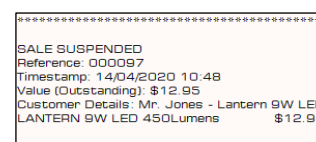

Figure 100: Suspended Sale Receipt
4. At this point, the transaction is removed from the Sales Ledger and "parked" while a printed Suspended Sale receipt is also generated (Figure 100), acting as proof of the unfinalised transaction.